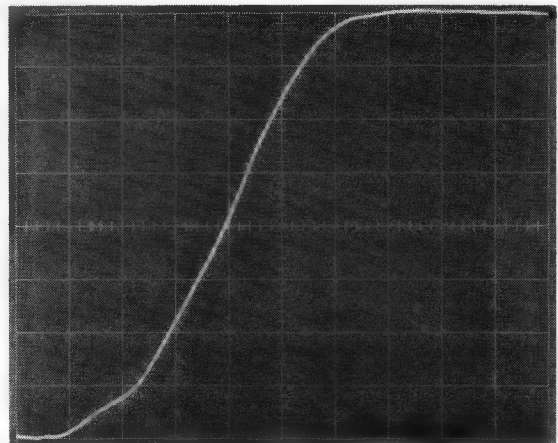

Fig. VII-2 Measuring rise times
- Magnify the display vertically using S7A, mV/cm, and its vernier RV10A. (see Fig. VII-2).